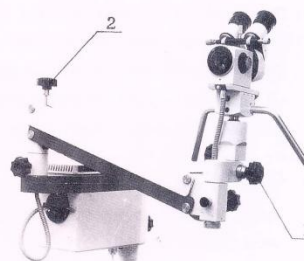

Fig.13
- (8) Recompositiond is needed while doing gynecologic operation (refer to Fig.13)